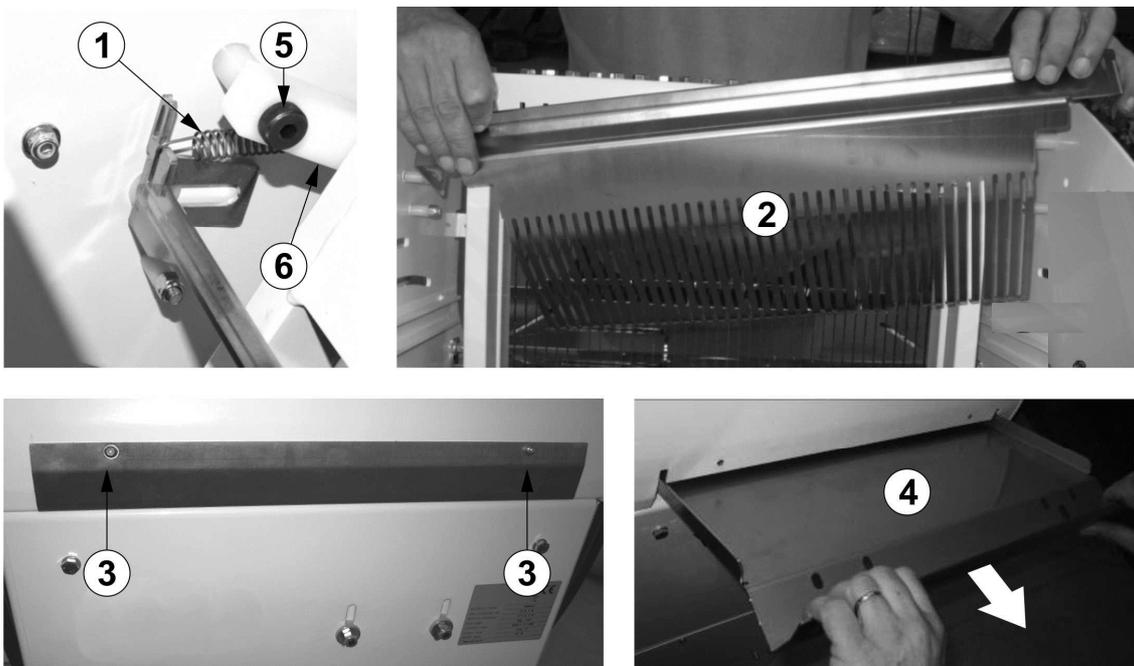
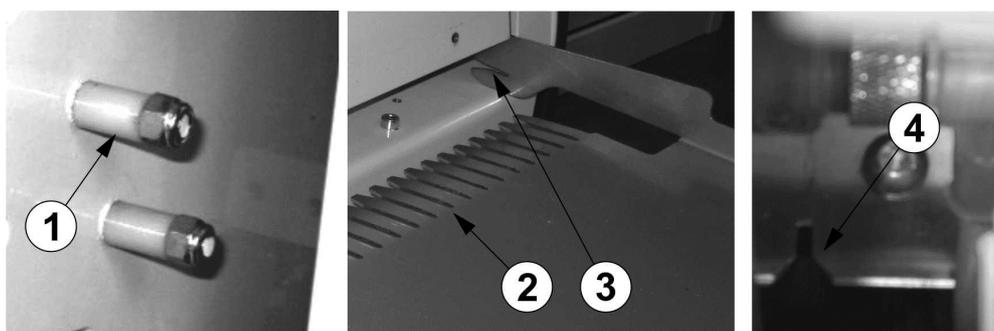

Figure 12
Figure 14
8. With a pair of pincers, detach the springs, ref. 1 (one on each side) from the hooking point on the comb, Figure 12;
9. Raise the comb ref. 2, extracting it from the pins at the sides and taking care not to damage the blades;
10. At the back of the machine, use an Allen wrench to remove the two screws ref. 3 and partly extract the slide ref. 4;
11. With an Allen wrench, remove the screws on the two sides, ref. 5 which hold the connecting rods, ref. 6 that support the rear blade holder frame;
18. Slowly re-insert the comb ref. 2 Figure 12 (take care not to knock the blades) and attach it at its ends to the pins ref.1 Figure 14. **Check centring of the comb between the blades (incorrect centring could cause the comb to touch the blades and damage them)**, ensuring that the plastic washers remain outside the fastening slots;
19. Put back the springs ref. 1 Figure 12 using a rounded pair of pincers;
20. Re-insert the slide of the loading table ref.4 Figure 12 and ref.2 Figure 12 with the teeth centred between the blades. Take care to lay the slide over the bread exit surface, being careful not to damage the blades;
21. In the operation in point 20, respect the male-female fitting of the side strips ref.3 with ref. 4;
22. Block the slide ref. 4 with the two screws ref. 3 Figure 12;
• The connecting rods ref.6 Figure 12 are worn	- change them